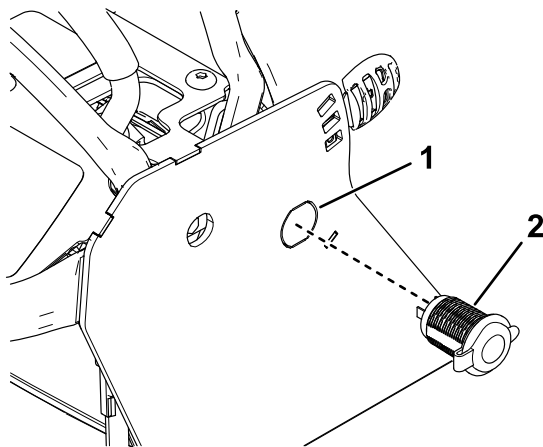

Figure 5
1. Remove the knockout on the right side of the machine (Figure 5).
3. Install the 12 V receptacle and secure it with the locking ring (Figure 5).